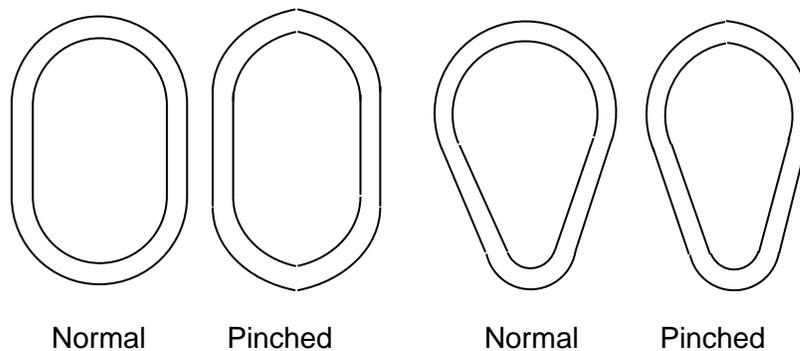

Figure 6. Normal and “pinched” link shapes.
- Check link for deformations. The curved ends of the link (either oblong or pear) should be generally circular in shape. If overstressing has occurred, the end portions of the link will appear “pinched.” Figure 6 shows the pinched effect of overstressed parts.